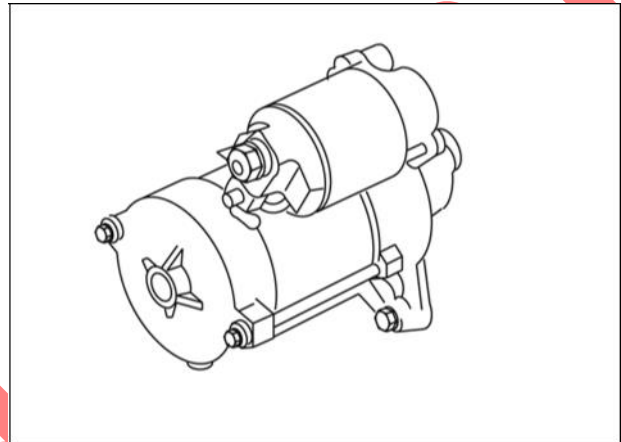

Figure 43
2. The DC Shunt must be installed on the negative (-) terminal of the battery (Figure 43).